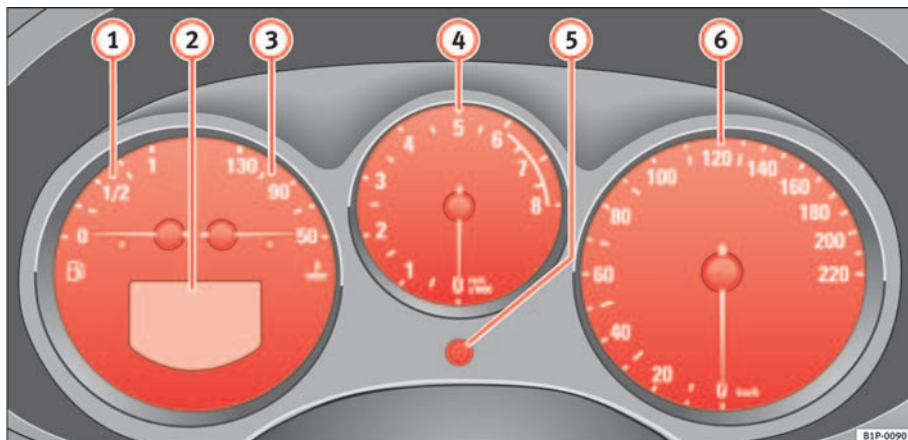

Fig. 33 Detail of the dash panel: Instruments
The start of the red zone on the dial ⇒ page 56, fig. 33  indicates the maximum engine speed which may be used briefly when the engine is warm and after it has been run in properly. However, it is advisable to change up a gear or move the selector lever to D (or lift your foot off the accelerator) before the needle reaches the red zone.
- Turn the setting knob ⇒ page 56, fig. 33  anti-clockwise to the stop to set the hour. If the knob is turned briefly anti-clockwise the clock will advance one hour further.
The right-hand counter registers the short journeys. The last digit indicates steps of 100 metres. The trip recorder counter may be reset by the reset button ➔ page 56, fig. 33 ⑤.